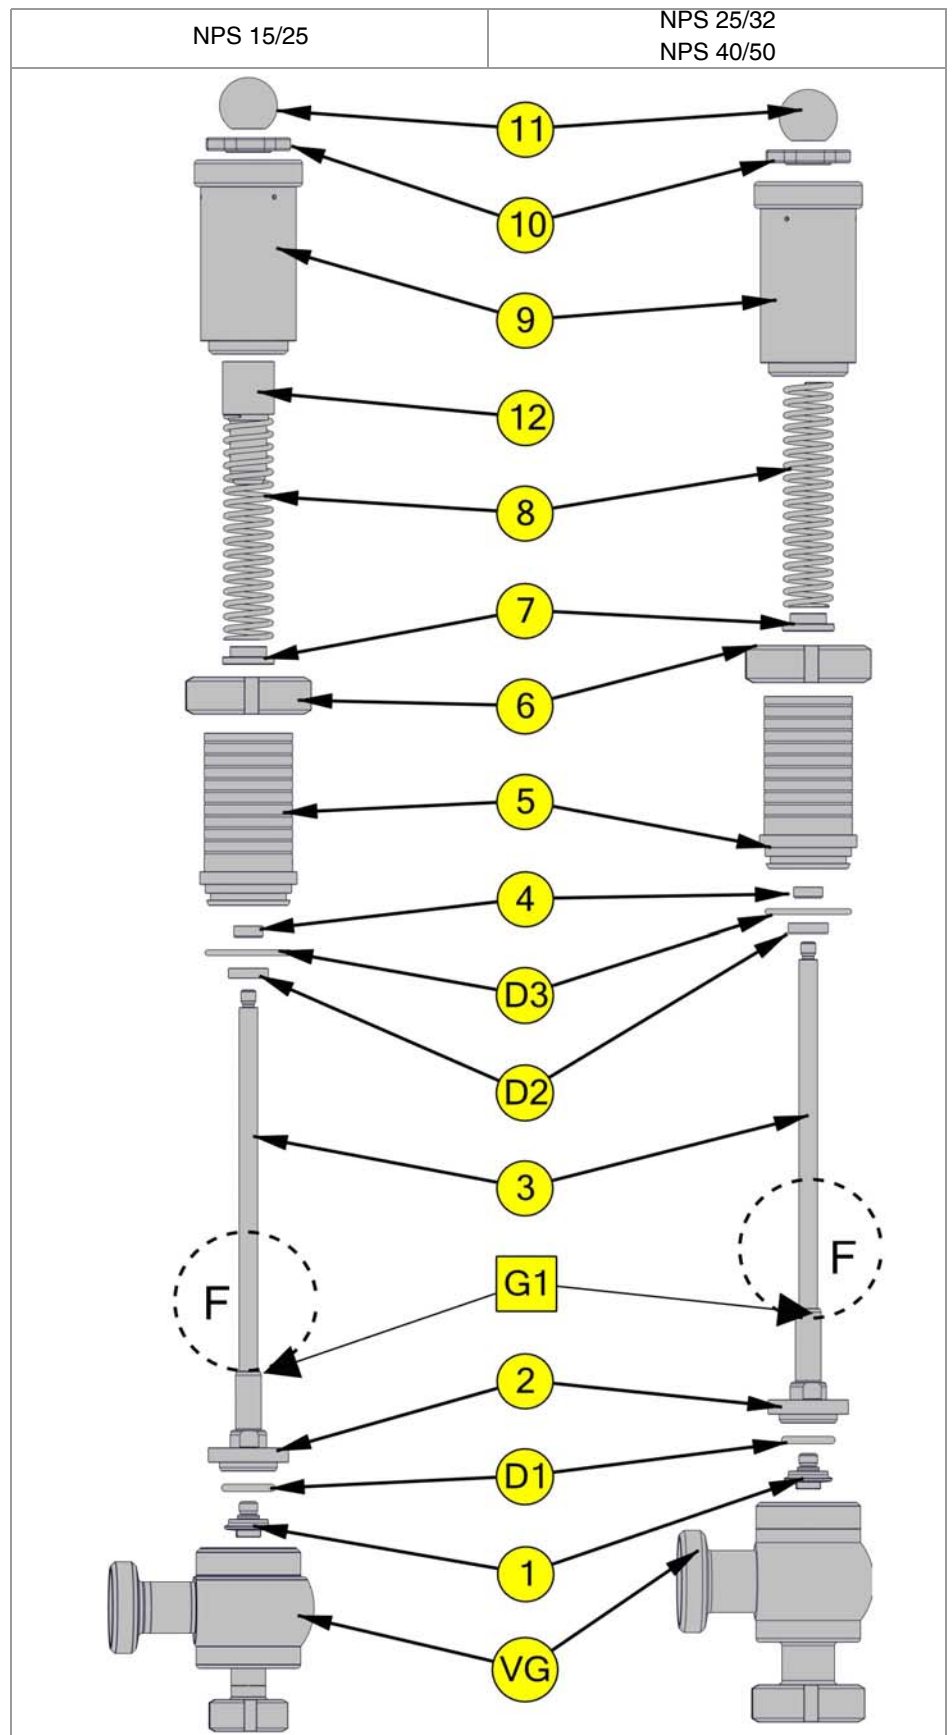

Fig. 1
- When pulling the spindle (3) from the spring housing (5), make sure that the thread of the spindle does not damage the bearing (4) or the lip seal (D2).
- The piston (2) is joined to the spindle with a high-strength screw locking device and must not be disassembled.
- Re-clamp the spindle at position (H) (see Fig. 1 /page 6) in the vice between the soft jaws.
- Unscrew the piston plate (1) above the width flat SW1 and remove the O-ring (D1).
- Unscrew the adjustment nut (9) from the spring housing (5). The pressure spring will relax.
- Remove the slotted nut (6), spring guide (12) (depending on the model), spring (8) and the spring plate (7).